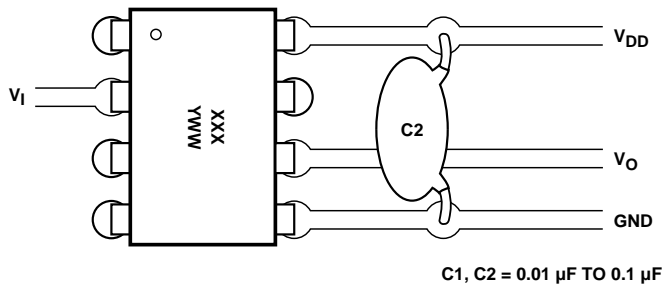

Figure 7. Recommended printed circuit board layout.
0.1 μF . For each capacitor, the total lead length between both ends of the capacitor and the power-supply pins should not exceed 20 mm. Figure 7 illustrates the recommended printed circuit board layout for the HCPL-0708.